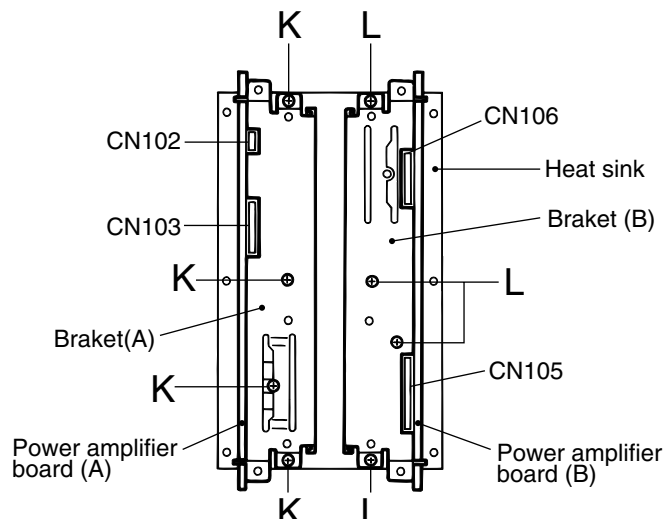

Fig.9
■ Removing the power amplifier board (A) (See Figs.9 and 10)
1. Remove the four screws K attaching the power amplifier board (A) to the heat sink.
2. Release the four joint hooks a bent and attached to the outside of the power amplifier board (A).
3. Move the power amplifier board (A) in the direction of the arrow to release joint b and remove the power amplifier board (A) from the bracket (A).
■ Removing the power amplifier board (B) (See Figs.9 and 11)
- Prior to performing the following procedure, remove the heat sink cover, the amplifier assembly, the amplifier cover, the preamplifier board, the power supply & SP terminal board, the main amplifier board and power amplifier board (A).
1. Remove the four screws L attaching the power amplifier board (B) to the heat sink.
2. Release the four joint hooks c bent and attached to the outside of the power amplifier board (B).
3. Move the power amplifier board (B) in the direction of the arrow to release joint d and remove the power amplifier board (B) from the bracket (B).